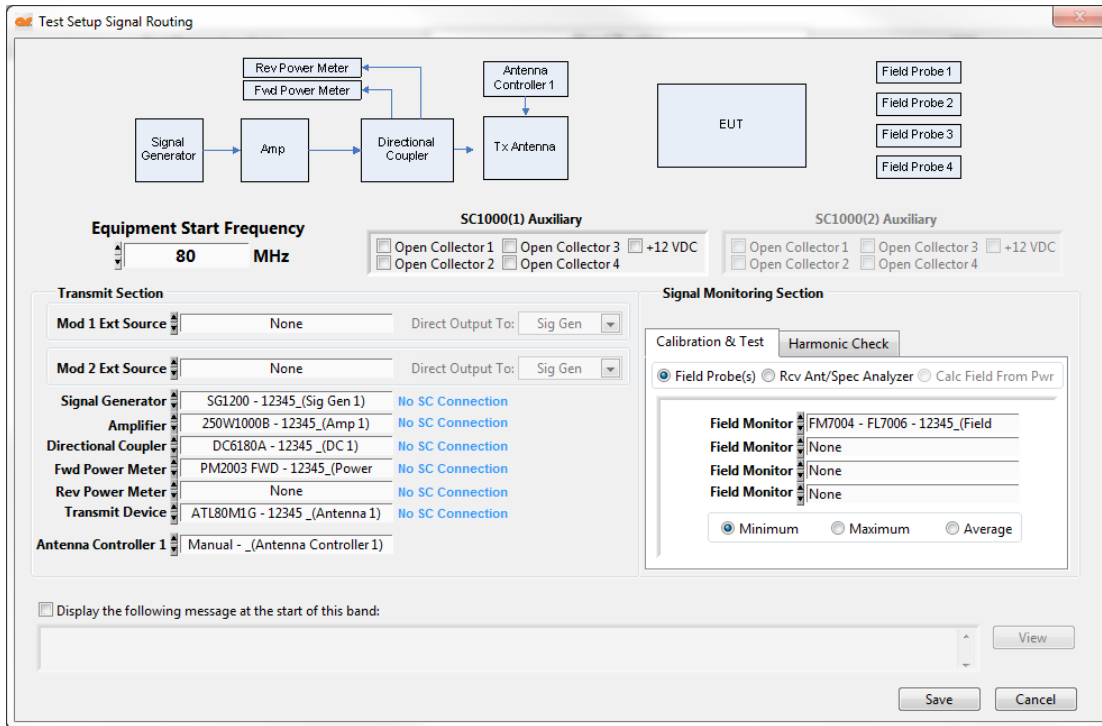

Figure 5 – Immunity Signal Routing
The next step in the Test Setup routine is for the user to define their Signal Routing. The Signal Routing function presents the user with a block diagram of the test setup and allows the user to assign equipment from their Equipment Setup for defined frequency ranges. This becomes especially useful when there are multiple transducers (antennas, bulk current injection clamps, etc.). Figure 5 shows a blank signal routing associated with a typical IEC 61000-4-3 RI test configuration. The last tab of the Test Setup window provides equipment under test (EUT) monitoring. emcware allows communication with a National Instruments (NI) Data Acquisition Card (DAQ) for monitoring Digital and Analog Signals or any other remotely interfaced monitoring device (voltmeter, Oscilloscope, audio monitor, BERT tester, etc.) from the equipment list. Using this approach, the user can setup direct communication between the EUT and emcware so that emcware can initialize, exercise, monitor, reset and power down the EUT. While monitoring, any status changes and failures are detected immediately by emcware and therefore the user is aware of the exact point of failure.